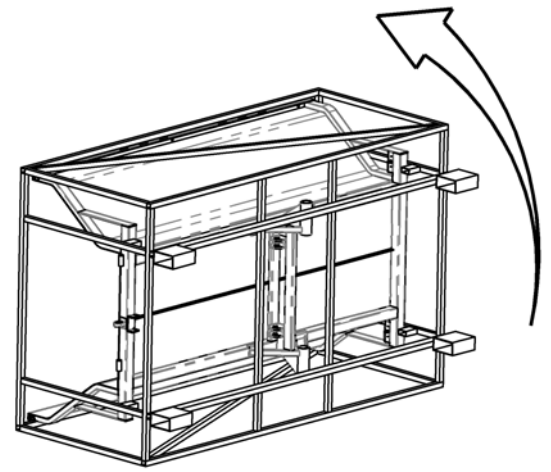
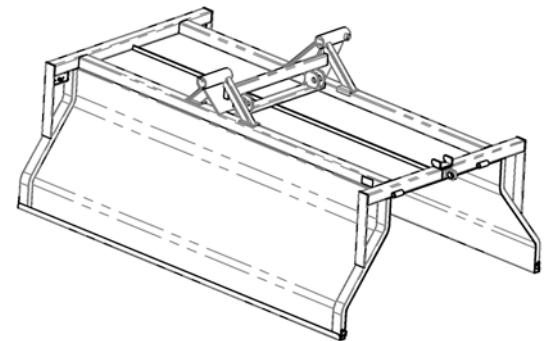

Figure 4
Figure 5
1. Remove the Bed from the Steel-Shipping Crate with the assistance of at least one other person by turning the Shipping Crate over into its top with the Bed still inside (**Figure 4**) and lifting the Crate off of the Bed leaving the Bed upside down on level ground (**Figure 5**).
2. To remove the Blue Plastic Film from the exterior and underside of the Bed, use a Utility Knife to cut around the Black Frame of the Trailer (**Figure 5**). Once you have cut around the Black Frame, use the point of the Knife to begin peeling at the edge of the Film.